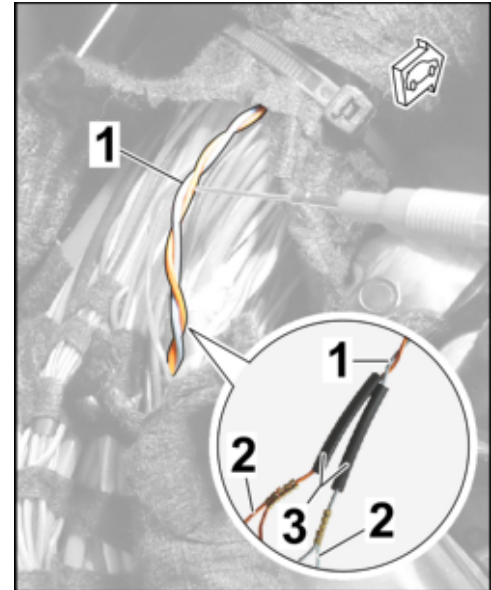

Figure 17
2.5.4 Establish splice connections to CAN lines (TPM control unit): ⇒ *Figure 17*